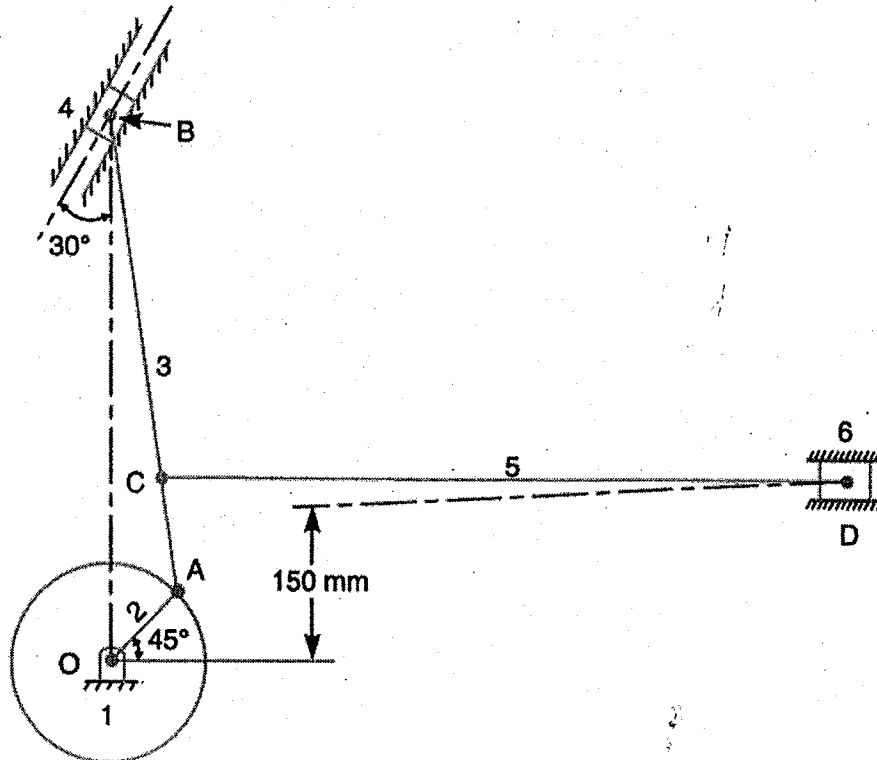

Figure 1
1. The crank OA of a mechanism, as shown in Figure 1, rotates clockwise at 120 rpm. The lengths of various links are: OA = 100 mm ; AB = 500 mm ; AC = 100 mm and CD = 750 mm. Write expressions, using instantaneous center method for,
2. Reconsider the mechanism in Figure 1.